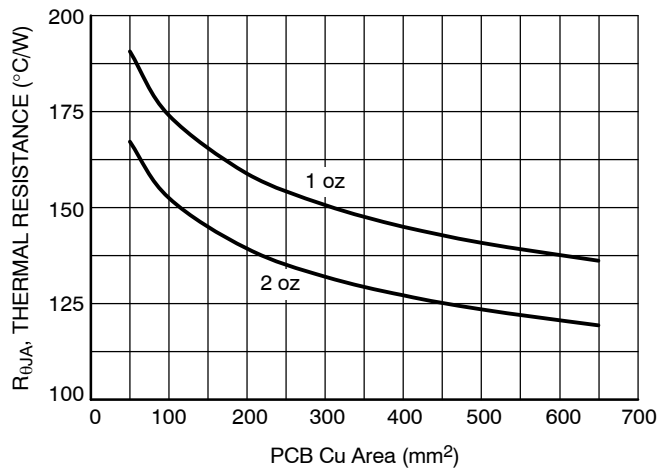

Figure 18. RθJA vs. PCB Cu Area
The NCV4296-2C low dropout regulator is self-protected with internal thermal shutdown and internal current limit. Typical characteristics are shown in Figure 3 to Figure 18.
Since TJ is not recommended to exceed 150°C, then the NCV4296-2C soldered on 645 mm2, 1 oz copper area, FR4 can dissipate up to 0.92 W when the ambient temperature (TA) is 25°C. See Figure 18 for RthJA versus PCB area. The power dissipated by the NCV4296-2C can be calculated from the following equations: